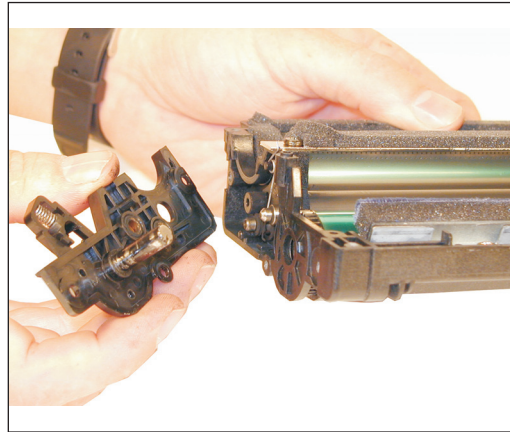

Figure 23
20) Clean the conductive grease off the left side (Non Gear) end cap and replace with fresh grease. Replace the end cap and three screws. See Figure 23